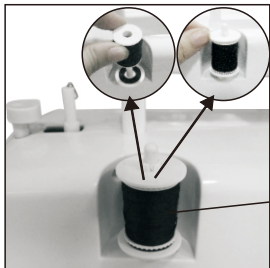

Fig. 20
1. Put a spool of thread on spool pin .(Fig.20)